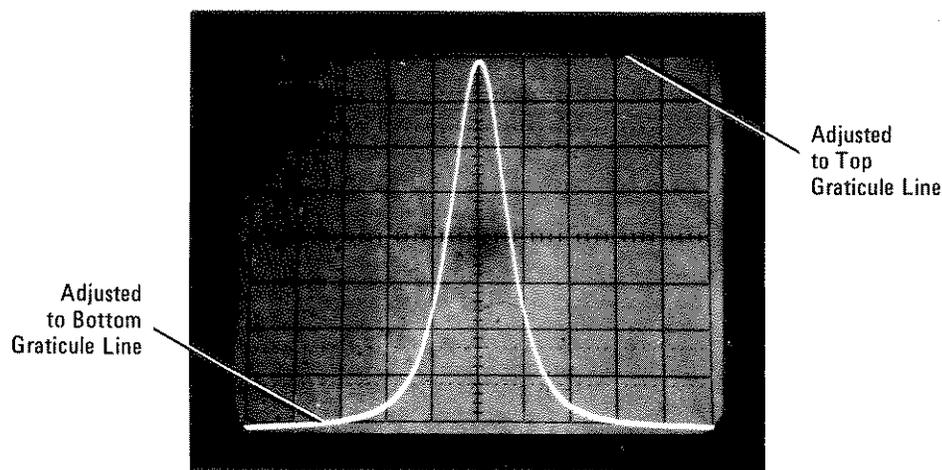

Figure 3-35. Spectrum Analyzer Calibration Signal Used to Adjust 8750A
- q. On the 8750A, press B then INPUT. At the 8750A rear panel, adjust the VERT IN OFF (Vertical Input Offset) control to place the bottom of the oscilloscope CRT trace on the bottom graticule line, and adjust the VERT IN GAIN (Vertical Input Gain) control to place the top of the signal trace on the top graticule line (See Figure 3-35).